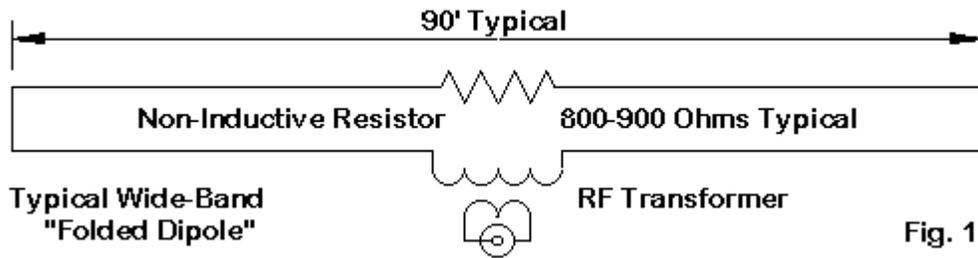

Fig. 1
- B. Terminated Folded Wide-Band Dipole (B&W series)** – Several companies make special wide-band folded dipoles with a termination load resistor and matching transformer as shown in Figure 15 (Fig. 1).